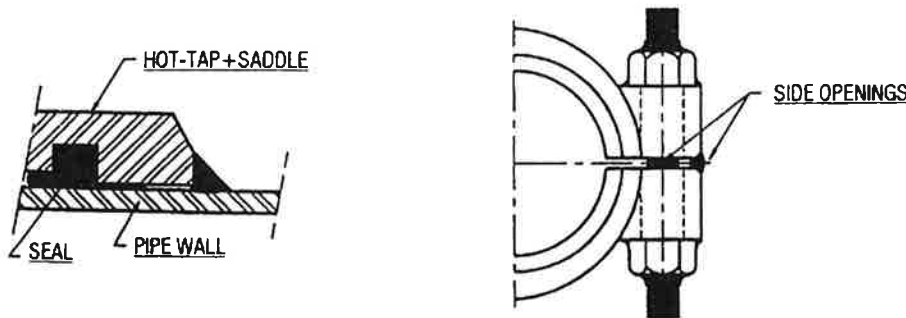

Fig. 4
2. Fillet weld ends to pipe. (See Figure 4)